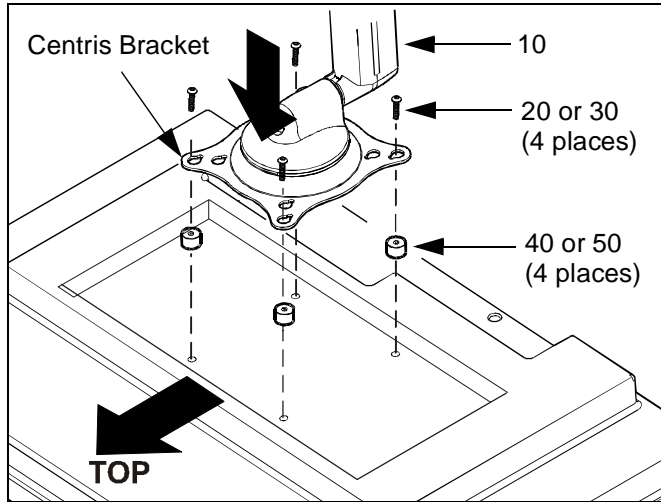

Figure 12: Single Display - Recessed Mount
7. Pick up and orient the mount (10) so that the mounting holes in the Centris bracket are aligned with the holes in the spacers; rotate the bracket as required (See Figure 12).
8. Using Phillips screwdriver, install four selected screws through the mounting holes in Centris bracket, through the spacers, into the display (See Figure 12). Tighten all four screws. Do not overtighten!